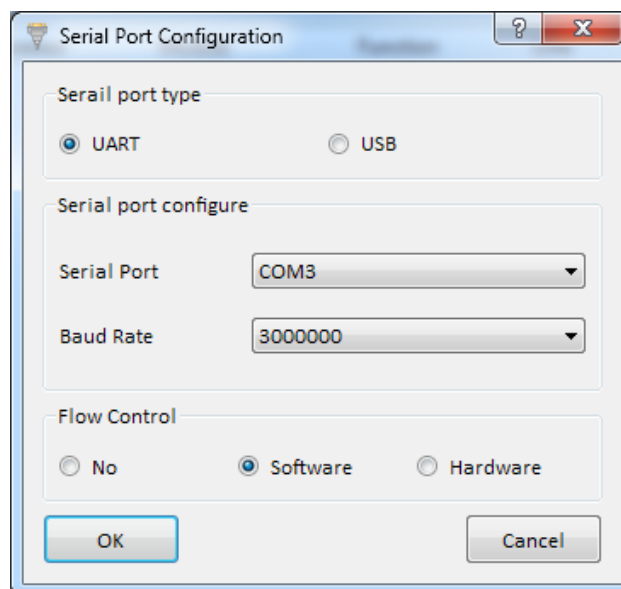

Figure 18. Serial Port Configuration Dialog
- 4) Set the Serial port & Baud Rate is shown in Figure 18.